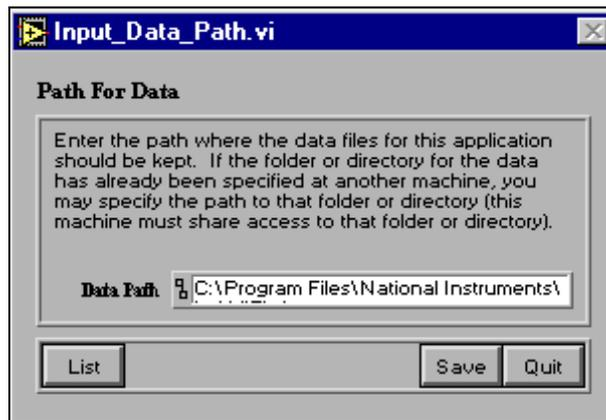

Figure 2. Input Data Path window.
| Figure 2. Input Data Path window. | 2 |
1. Click **OK**. This opens the "Input Datapath" window (see Figure 2).